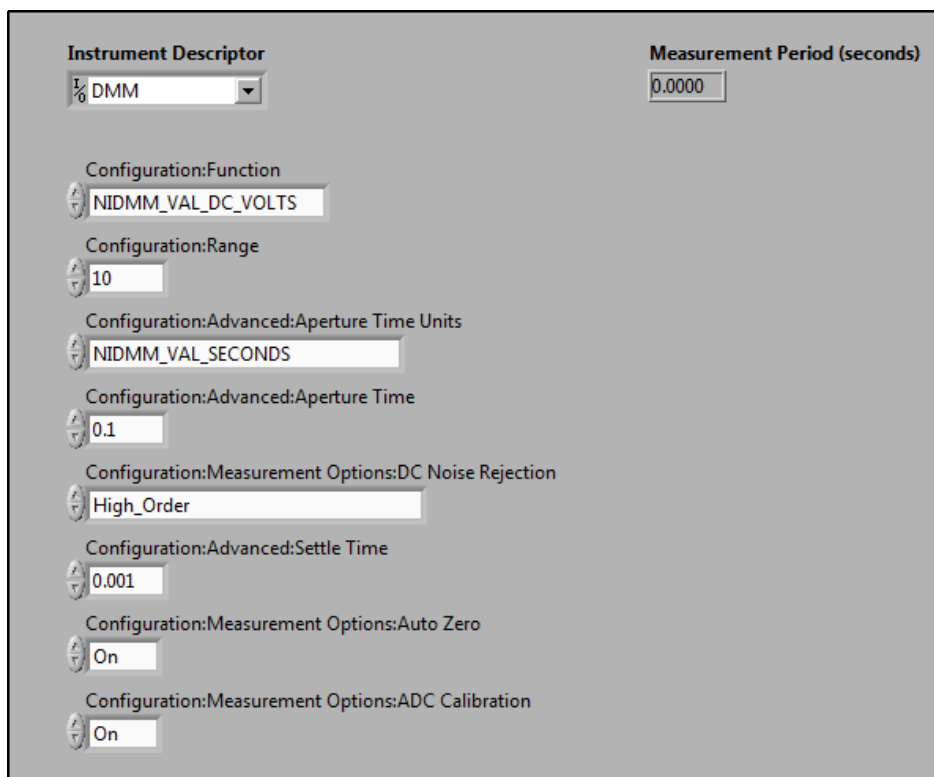

Figure 3-5. Advanced Single Point Benchmark VI Front Panel
6. Arrange your front panel to look similar to Figure 3-5.